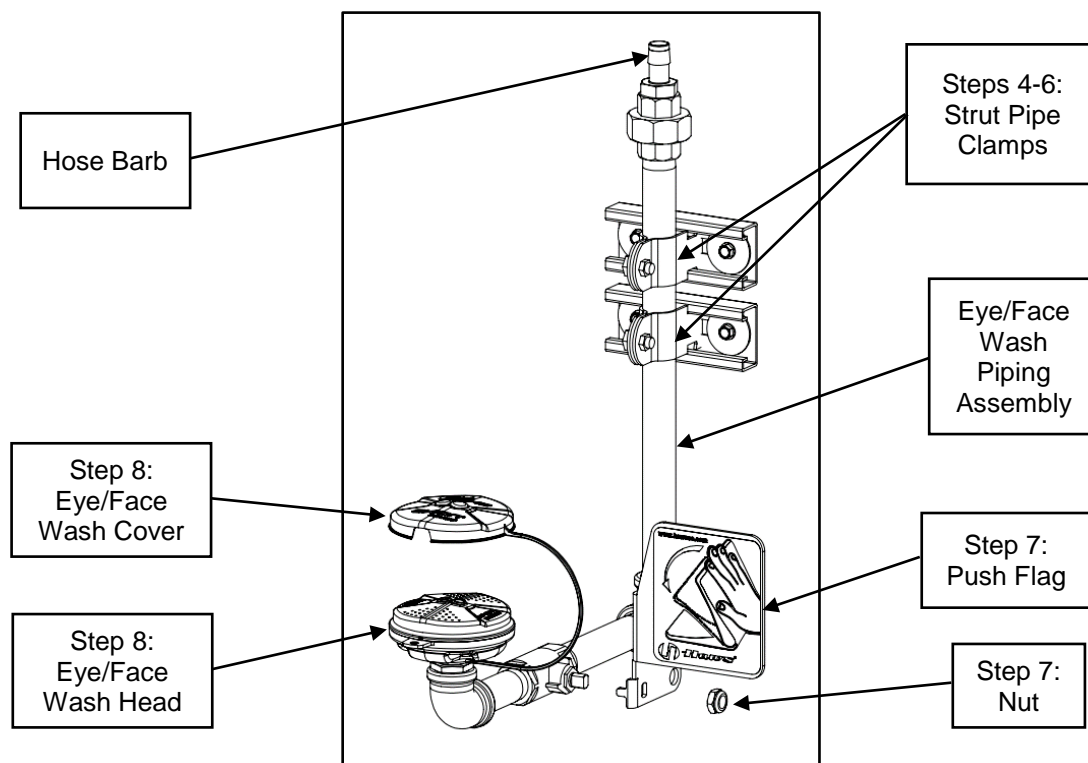

Figure 23. Eye/Face Wash Assembly (Frame Hidden for Clarity)
5. Place the vertical pipe from the Eye/Face Wash Piping Assembly (Item #1) into the clamp, then install the bolt and nut into the clamp. Center the clamp in the strut and finger tighten the clamp as shown in Figure 23.
7. Remove hex nut from ball valve handle, place Push Flag (Item #8) on valve stem as shown in Figure 23, then replace and tighten nut.
8. Place ring of Eye/Face Wash cover (Item #10) over nipple on Eye/Face Wash Head (Item #9) and install the head as shown in Figure 23.